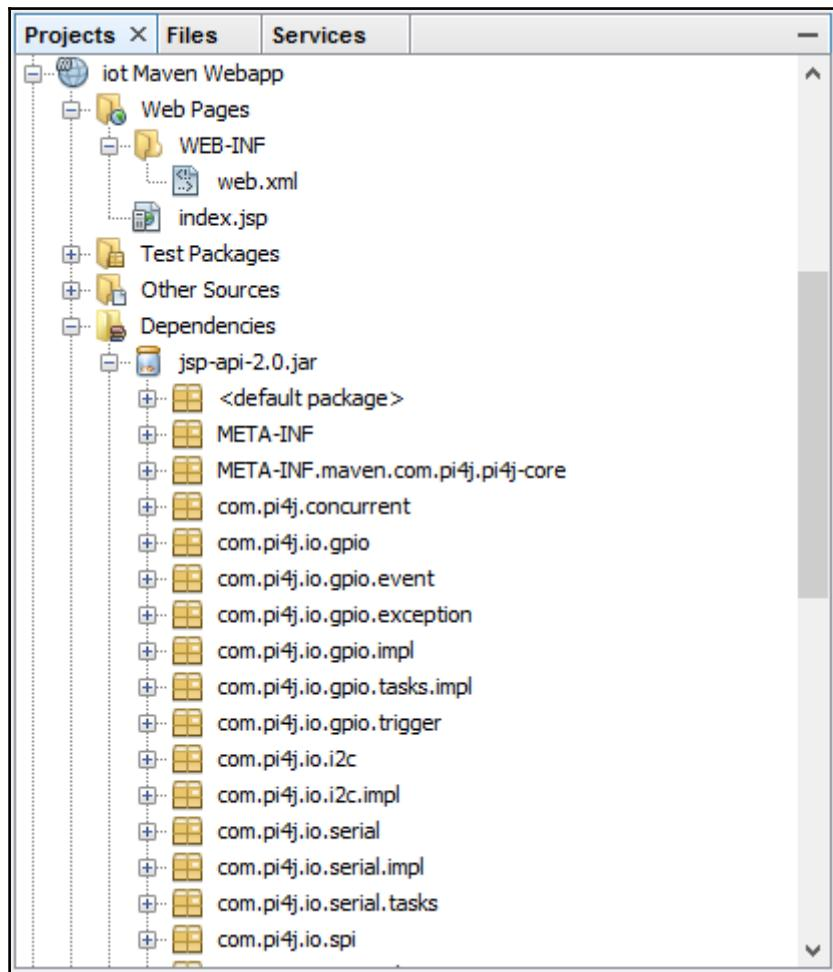

Figure 6-14: Pi4J library
8. The newly installed Pi4J library can be found by expanding the `jsp-node-2.0.jar` node, as shown in Figure 6-14: